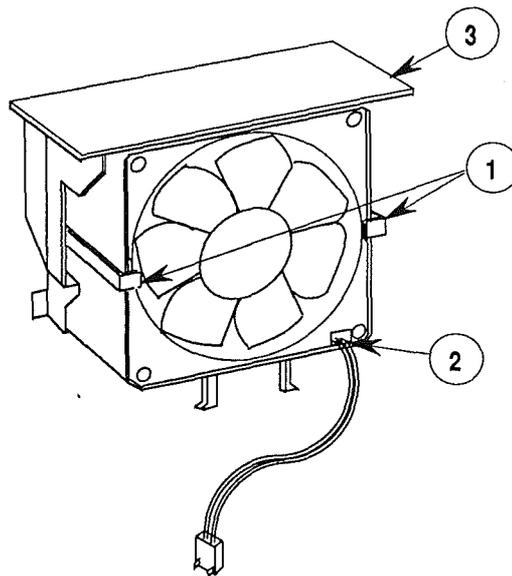

FIGURE 8
5. On the fan side of the bracket (the side from which the wires exit), unlatch the two plastic tabs (one on each side of the fan) (Figure 8, #1), and push the fan out of the bracket.
1. Align the fan in the bracket so that the hub of the fan (with the wiring) goes into the bracket. This way the wires will be sticking out of the fan away from the bracket (Figure 8, #2). It is also important that the wire side be toward the bottom of the bracket. The large flat side (Figure 8, #3) of the bracket is the top.